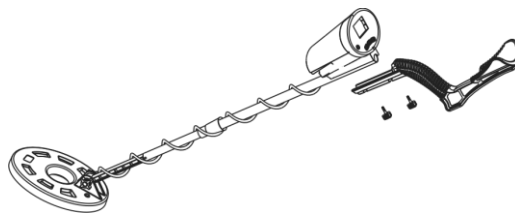

Fig.1
1. Loosen the two triangular fasten buttons below the control box,insert the bracket,then tighten the two triangular fasten buttons (See Fig.1).